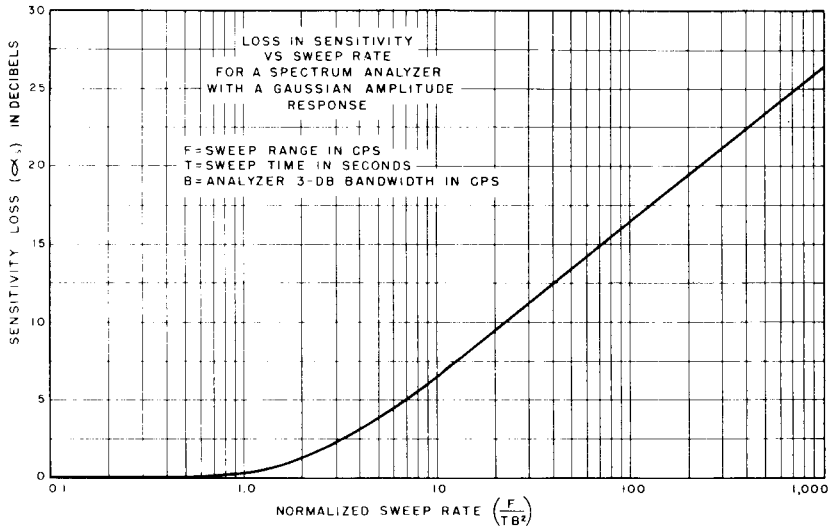

Figure 3. Sensitivity Loss vs Sweep Rate.
| Figure 3.     | Sensitivity Loss vs Sweep Rate .....  | 5           |
Equations (1) and (2) are plotted in figures 3 and 4 respectively.